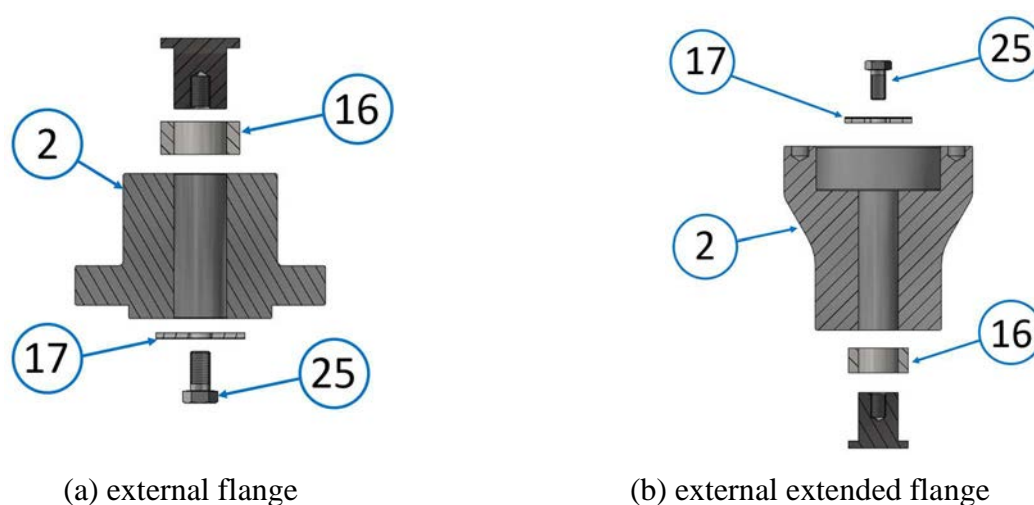
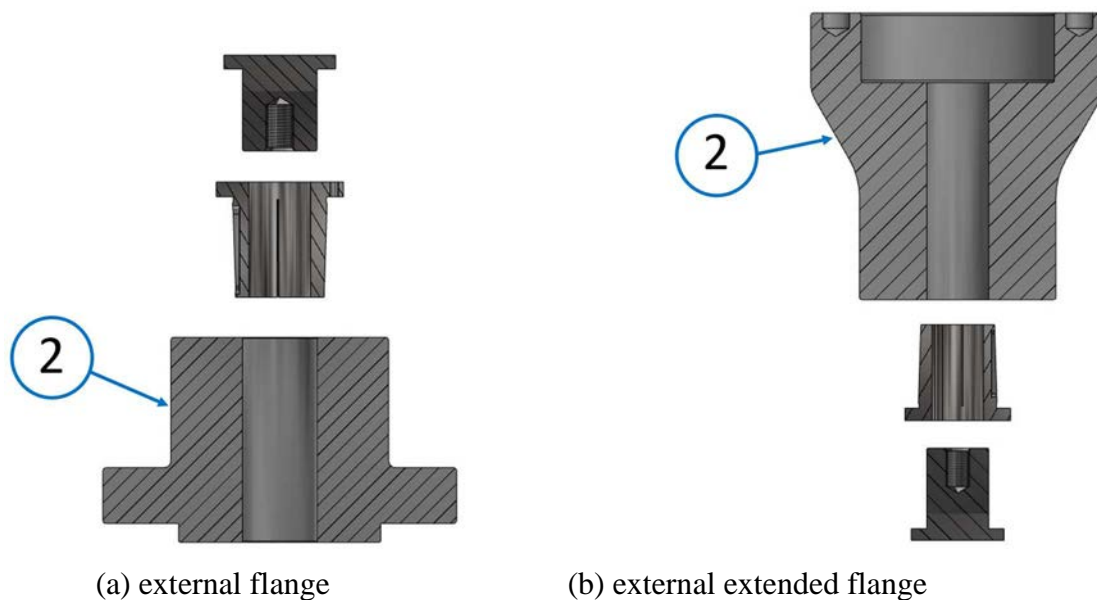

Figure 2.8: installation of external flange with cylindrical hole
Figure 2.9: installation of external flange with bushing
COFIMCO can supply two different types of hub with external flange: with cylindrical bore (see figure 2.8) or with cylindrical bore for bushing installation (see figure 2.9).
- 1) **Hub with flange with cylindrical bore:** anchored directly to the shaft that transmits the motion; for the procedure please refer to figure 2.8.
Put the washer [17] on the flange and tighten the bolt [25] to the shaft, as shown in figure 2.8.
2) **Hub with flange with bushing**: to fasten it refer to figure 2.9.